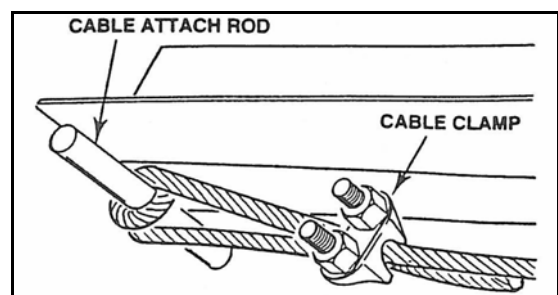

Figure 3.17
5. Wrap cable 1-1/2 times around the cable attach rod and secure with three cable clamps. Position cable clamps as shown in Figure 3.17 and 3.18. Tighten cable clamps securely.